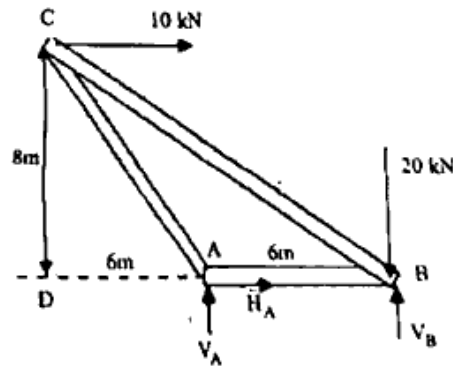

Figure 1 (आकृति 1)
1. Determine the forces in the members of the pin-jointed truss shown in figure 1. 14